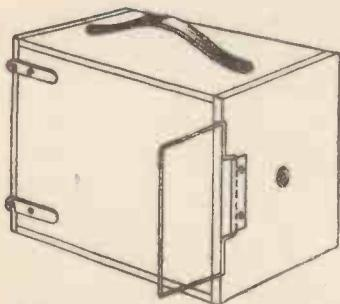

Fig. 1.—Showing how the View-Finder is attached.
**T**HE efficient little camera shown at Fig. 1 takes plates  $3\frac{1}{2}$  in. by  $2\frac{1}{2}$  in., and is quite simple to make. First obtain a small magnifying-glass and measure its focus. If you hold it in front of a white card so as to get a sharp image, the distance between lens and card is its focus.